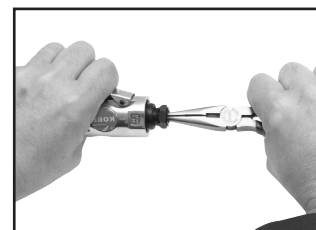

Fig. 3
2. Remove the plastic dust cap using a pair of pliers (See fig. 3).